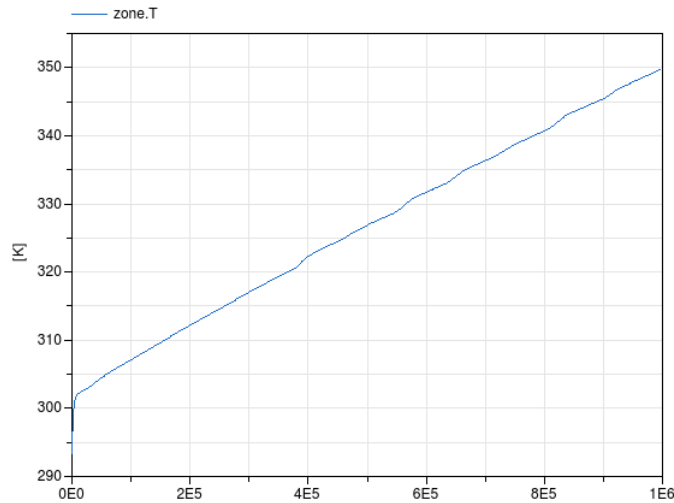

Figure 6: Air temperature as function of time.
**Reference result** The result of the air temperature is plotted in Figure 6. The temperature rises very steeply since the wall is relatively well insulated ( $k = 0.04\text{ W}/(\text{m} \cdot \text{K})$ ) and the heater is not disabled when it becomes too warm.